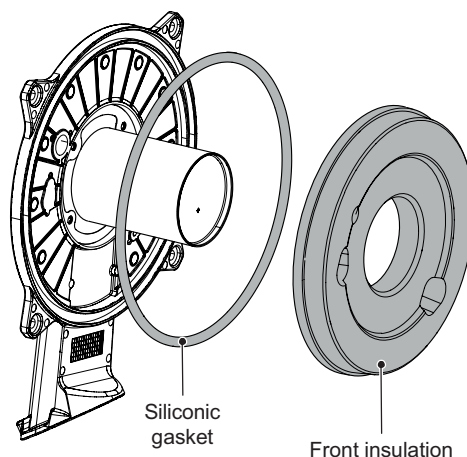

Figure 18.3
- 2 Remove the front insulation panel by sliding it forward (Figure 18.3).
After any periodical servicing or disturbance the combustion chamber silicon seal (Figure 18.3) must be fully inspected and replaced at the discretion of the service engineer. After any disturbance to the chamber door seal the appliance must undergo a full analytical combustion performance check.